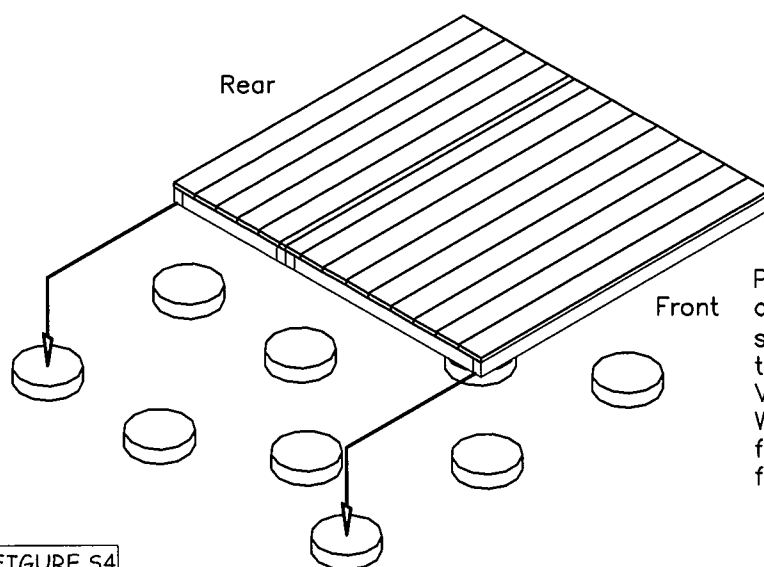

FIGURE S4
5. This task will require two people to lift the completed floor assembly and place it on your foundation as shown in Figure S4. It is extremely important to level the floor assembly. You will encounter difficulty later when trying to install the wall panels and roof system if the floor is not properly leveled.